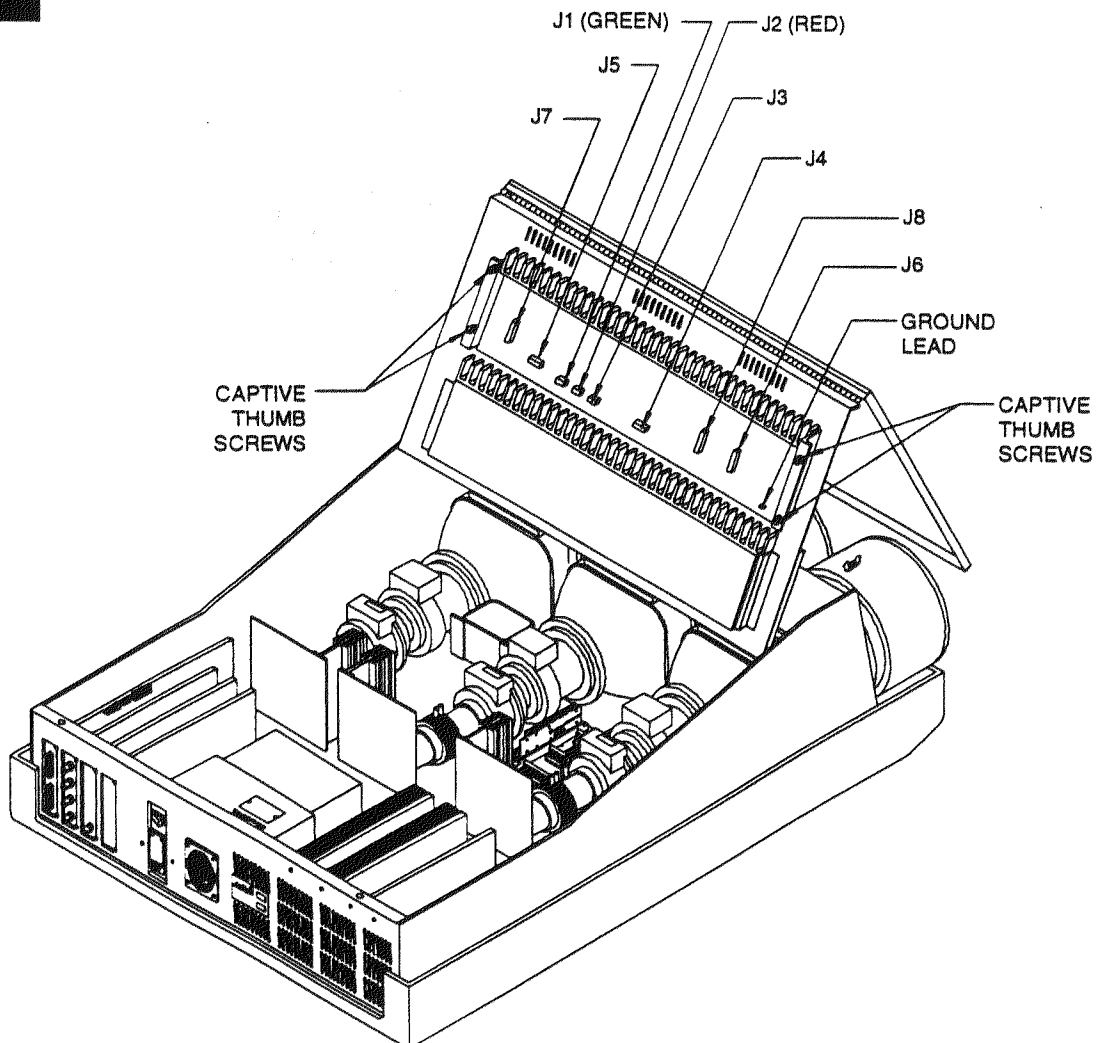

FIG. 10-26. 3300 FOCUS MODULATOR BOARD REPLACEMENT.
- STEP 3. On the component side of the Focus Modulator board, disconnect the following; J1 through J8 and the ground lead. See Figure 10-26 (3300) and/or 10-27 (4300).
- STEP 4. Loosen the four (4) captive thumb screws located on both sides of this assembly.